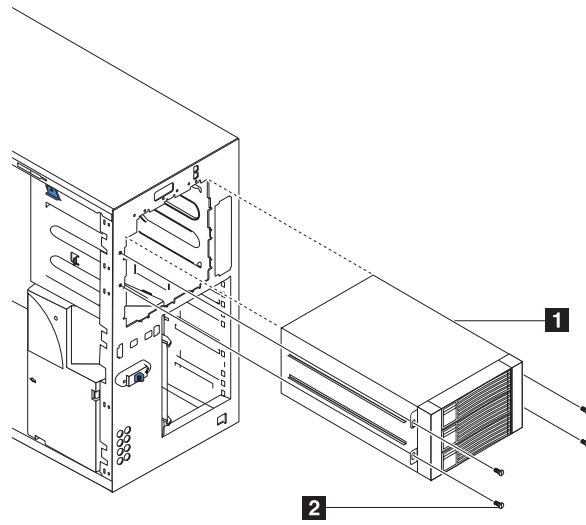
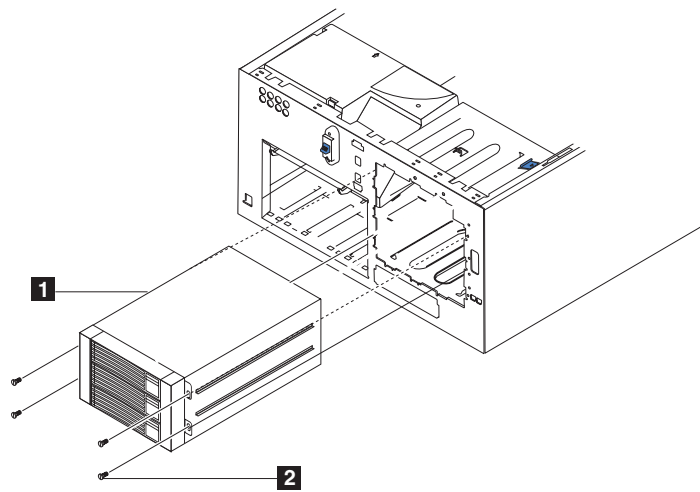

Figure 79. Attaching the 3-Pack Expansion (Model 25T)
Figure 80. Attaching the 3-Pack Expansion (Model 25T with the rack-mount conversion feature)
11. Slide the 3-Pack Expansion into the engine until it stops, and secure the option to the engine using the four screws provided (see Figure 79 or Figure 80).
5. Remove the four screws securing the 3-Pack Expansion to the chassis (see Figure 79 on page 145 for the location of the screws).